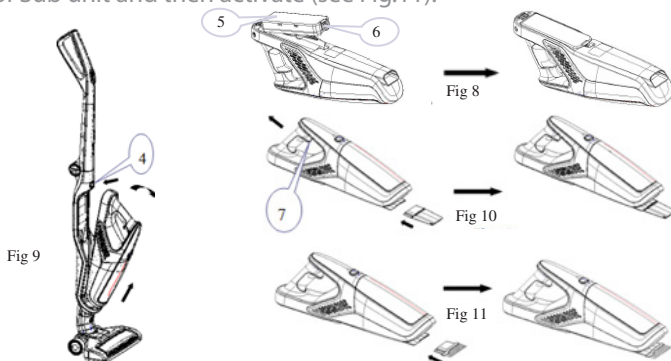

Fig 9
Press down the Release button of Sub unit (4) (See Fig.9), then grasp the handle of Sub unit by following the direction shown in Fig.9 to remove the Sub unit. After it, press down the Power button of Sub unit (7) (see Fig.10), the Sub unit starts working, press it again, the Sub unit stops working. If need to use Small hair brush, insert it into the nozzle of Sub unit and then activate (see Fig.10). If need to use the Flat suction spout, insert it into the nozzle of Sub unit and then activate (see Fig.11).